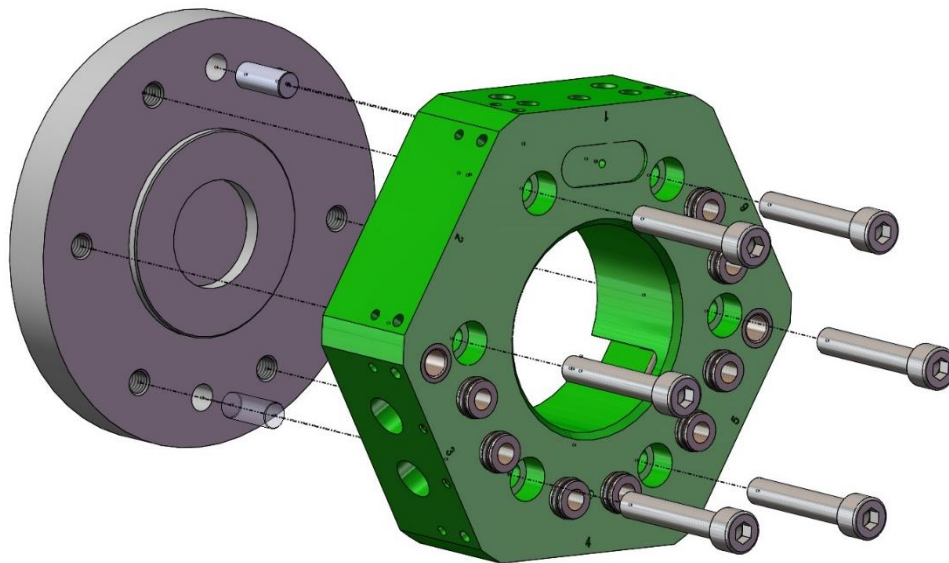

Figure 5.2-2. ET100 Tool Side Installation (Bolt Top Down)
1. Locate the Tool Side to the tool plate utilizing either the locating hub and one (1) M8 locating dowel, or two (2) M8 locating dowels (Figure 5.2-2).